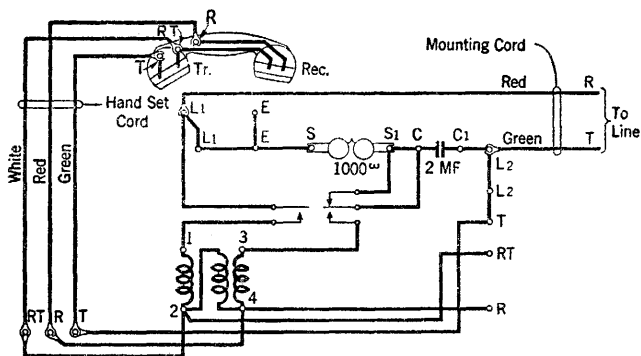

Fig. 1
2.01 These sets are in general similar to the 302-type telephone sets shown in Section C32.502, Figs. 1 and 2 except that they are equipped with an apparatus blank instead of a dial and are used at manual common battery anti-sidetone stations on non-polarized ringing lines of the following classes of service:
2.02 These sets are provided with a two conductor mounting cord and connected as shown in Fig. 1.
3.01 The connections for these telephone sets are shown in Fig. 1.
5.05 The plunger and switch contact spring assembly is somewhat similar to Fig. 1, Section C32.575.